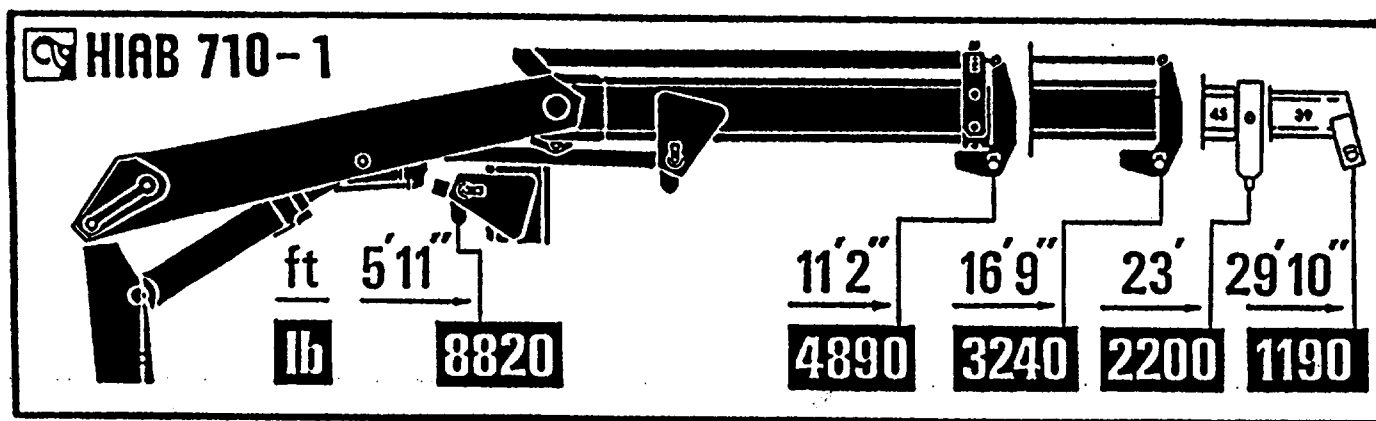

Figure 2-4
1. **CHECK LOAD-RANGE CAPACITY:** The combined weight of load and any load-handling attachment must not exceed the rated crane load-reach capacities shown on the Capacity Chart Label (figure 2-4). This label is located proximate to the operator station for easy reference.